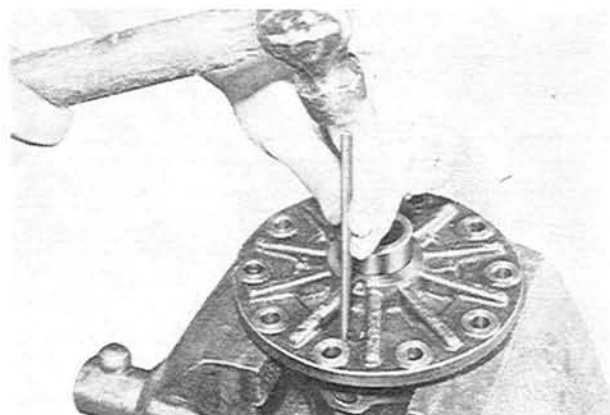

Fig. 9-12 Removing of lock pin
- From the back side of the ring gear flange, drive the pinion shaft lock pin out of the gear case with a suitable drift, as shown in Fig. 9-12.